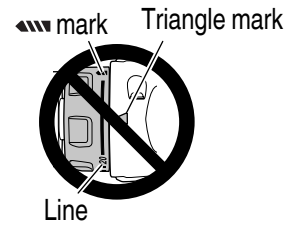

Fig. 13
- Do not use with the clutch dial set at the line between the number “20” and the drill mark “▲”. Doing so may cause damage (See Fig. 13).